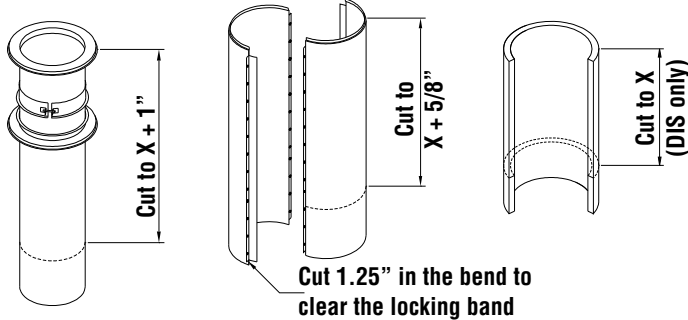

Figure 60 - Variable length, Installation step B
- b. Cut the inner wall at the dimension found at point 'a.' plus 1". Cut the split outer casing at dimension plus 5/8". Then cut the insulation band at dimension (DIS only). See **figure 60**.